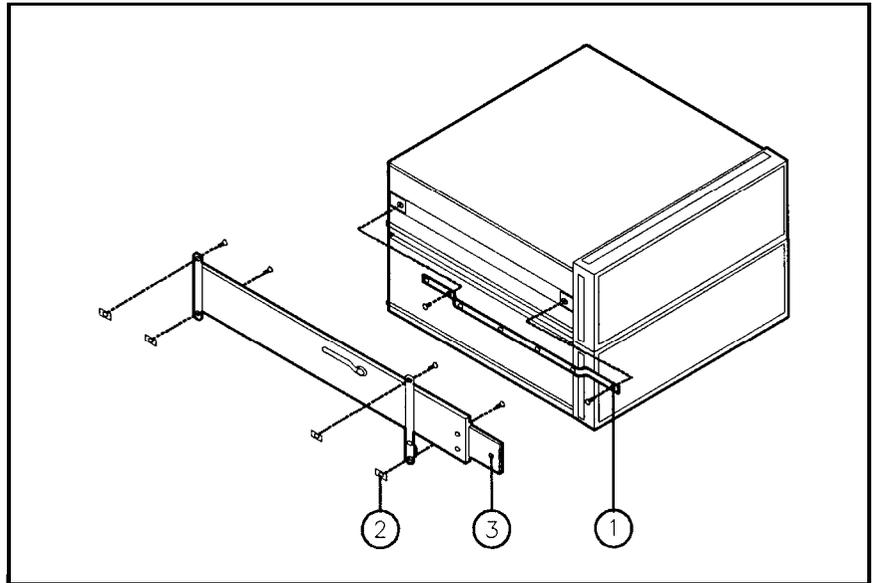

Figure 2-13. Attaching the Inner-Member Brackets
17. Attach one slide inner-member bracket to each side of the instrument using two **M5x0.8x10** pan-head screws per side. See ① of Figure 2-13.
- Insert two Unistrut nuts, item ② of Figure 2-13, into each of the two vertical columns on the left side of the system cabinet. Insert two Unistrut nuts into each of the two vertical columns on the right side of the system cabinet.
- Bolt an outer slide mount to the Unistrut nuts in each side of the systems cabinet, using four **M5x0.8x12** pan-head screws per side. See ③ of Figure 2-13.